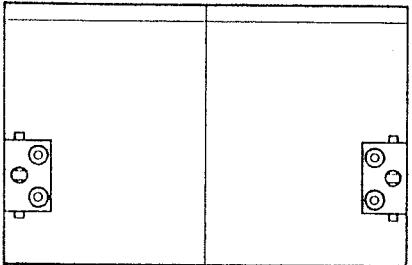

Fig. 1
<p>2) The following gauge is necessary for this adjustment. (Fig. 1) * Holder origin gauge</p> <p>3) Confirm that the gauge is attached and is in parallel. (Fig. 2) Connect the PGM-6, perform a jump, and check whether the engraved marker line on the gauge is parallel to the needle tip. When the gauge is not parallel, adjust it by loosening screw ① in the figure on the left.</p> <p>4) Keeping the PGM-6 with connected, the holder plate returns to the origin.</p>